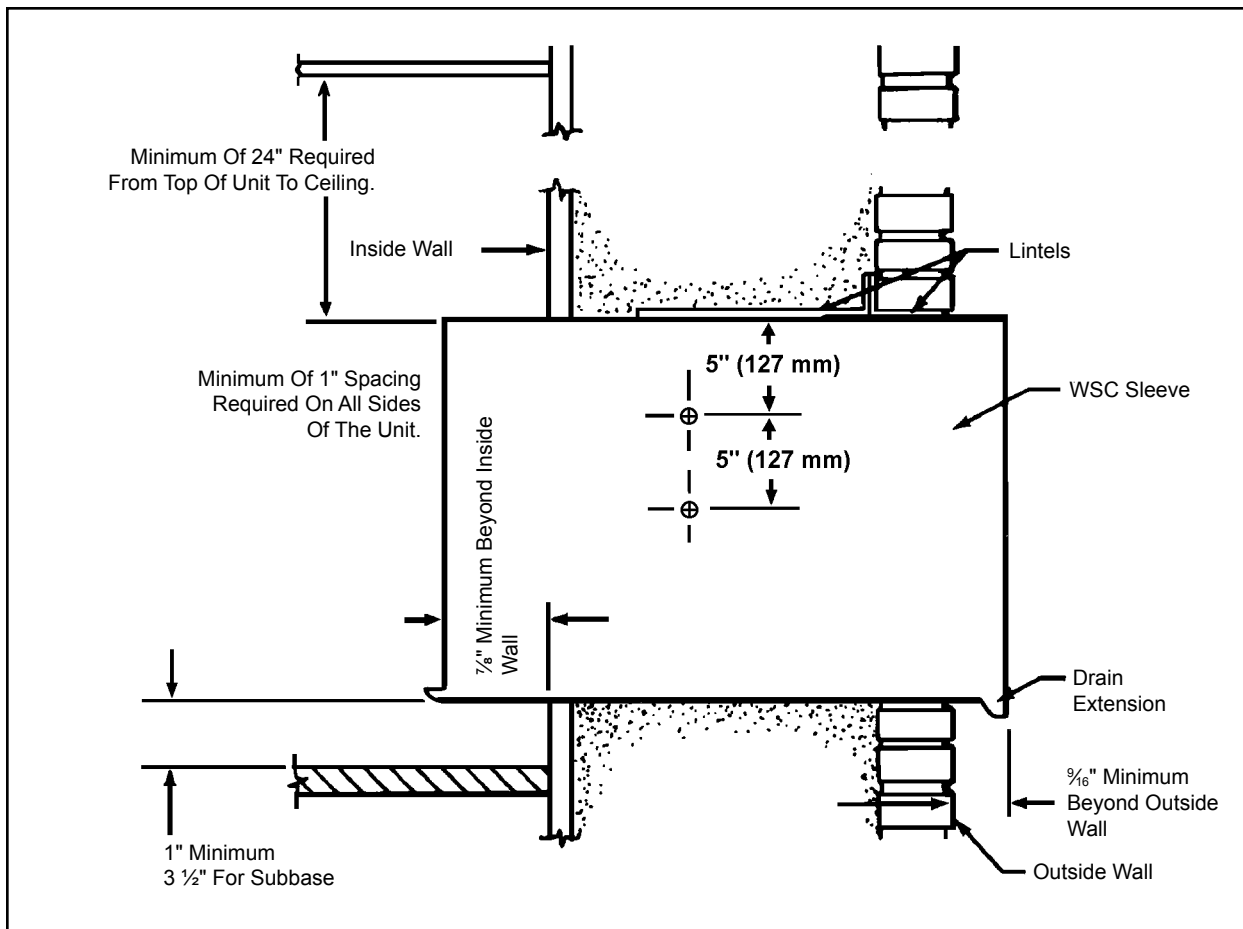

Figure 7
- STEP 1** The WSC SLEEVE should be positioned so that the DRAIN EXTENSION extends a minimum of $\frac{5}{16}$ " beyond the OUTSIDE WALL (See Figure 7).
- STEP 1** After unpacking the WSC SLEEVE from the carton, remove the corrugated FRONT PANEL. Place the WSC SLEEVE in the wall opening following the instructions given in the INSTALLATION REQUIREMENTS. Attach the SLEEVE to the INSIDE WALL by driving two #12A x 2" screws in each side of the SLEEVE (see Figure 7). Shim at the top of the SLEEVE, midway between the sides. Drive one #12A x 2" screw in the top of the sleeve, close to the shim. Install screws from inside the SLEEVE. If the wall opening is not framed with wood, use expansion anchor bolts or molly (toggle) bolts (not provided).